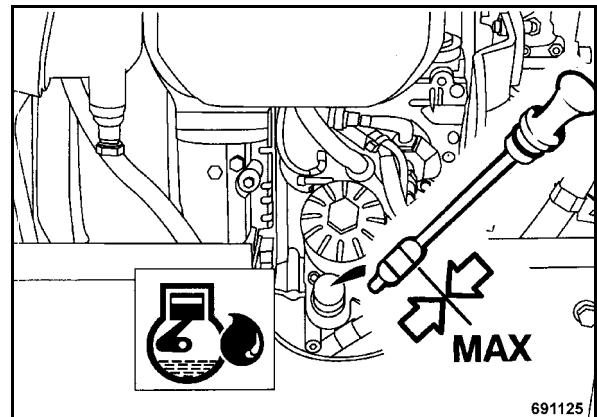

Fig. 48
- Pull the dipstick (Fig. 48) out, wipe it off with a lint-free, clean cloth and reinsert it until it bottoms.